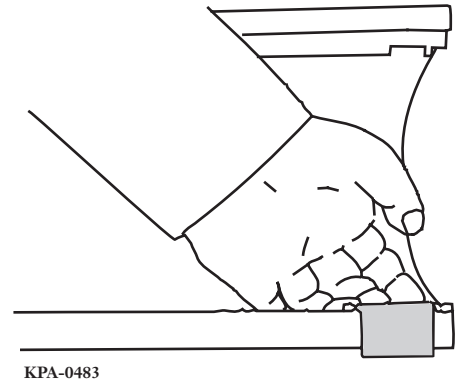

Figure 41 — Remove Clip from Cover
- Step 1** Remove the red protection clips from the closure cover and throw them away (Figure 41).